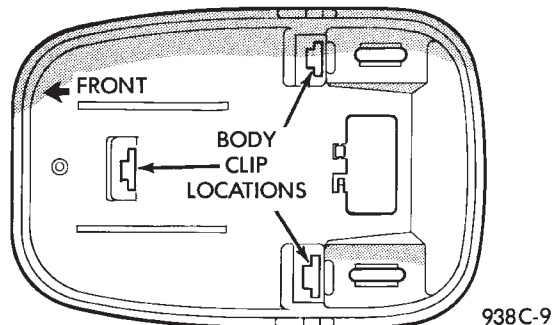

**Fig. 8 Mini Console Base Removal**
- (1) Remove overhead console. Refer to Overhead Console Removal and Installation procedures in this section.
- (2) Remove head liner. Refer to Group 23, Body for Removal and Installation procedures.
- (3) Using an trim stick, remove console base by disengaging the body clips (Fig. 8).
- (4) Remove base from vehicle.